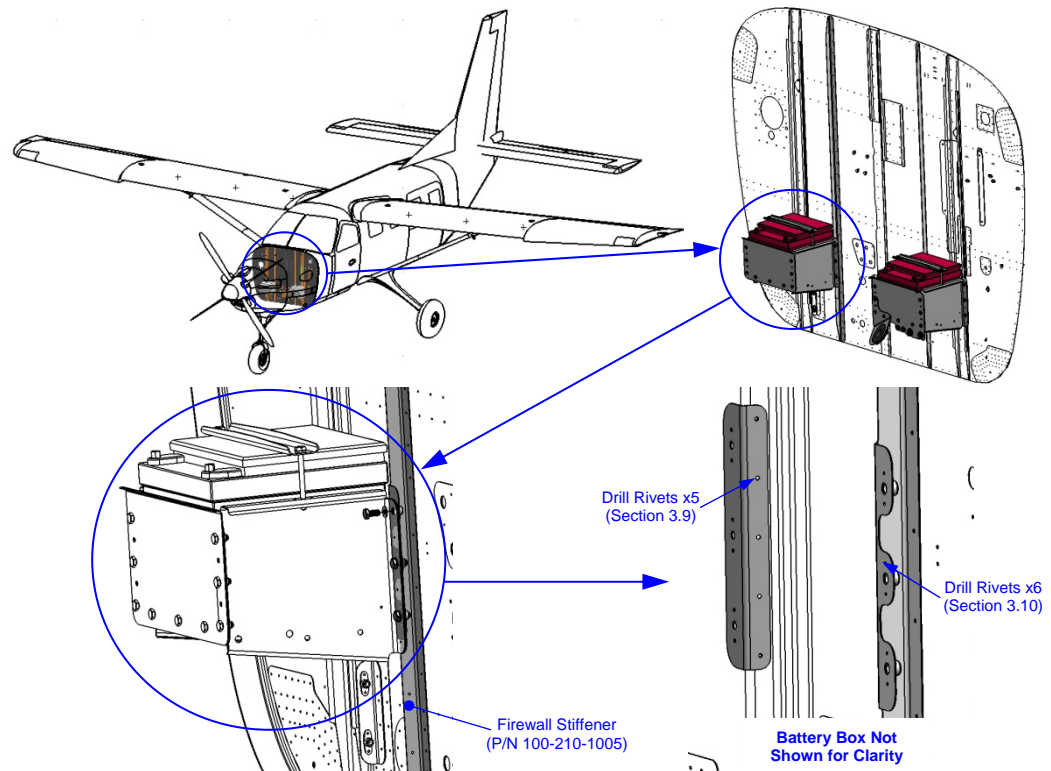

Figure 3-1: Drill-Down for Fastener Removal
Drill out the five (5) fasteners securing each of the aluminum battery box mounting brackets (P/N **100-210-1027**) to the firewall; refer to **Figure 3-1**. Remove and discard the mounting brackets.
Drill out the two (2) fasteners securing each nut plate to the stainless steel firewall stiffener; refer to **Figure 3-1**. Remove and discard the nut plates.